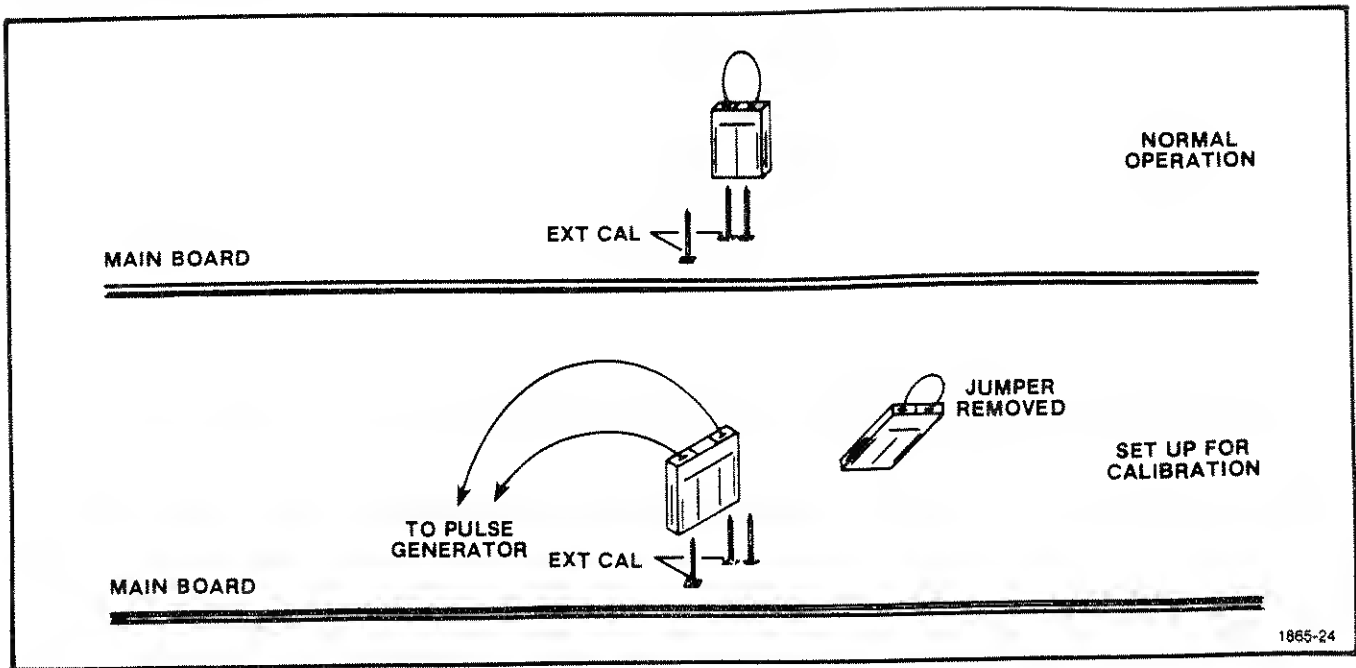

Fig. 4-6. External Calibration connection.
d. Connect the – OUTPUT from the PG 501 to the EXT CAL terminals on the Main Board (see Fig. 4-6).